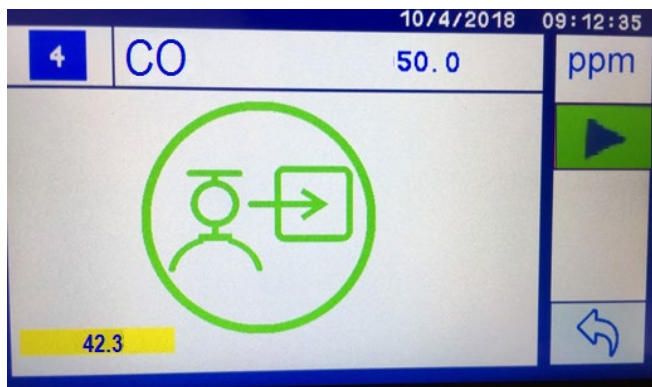

Figure 11-4: Start calibration – READY State
- c. When the gas measured value is near to the target value the Run  icon will turn from RED to GREEN (Figure 11-4).